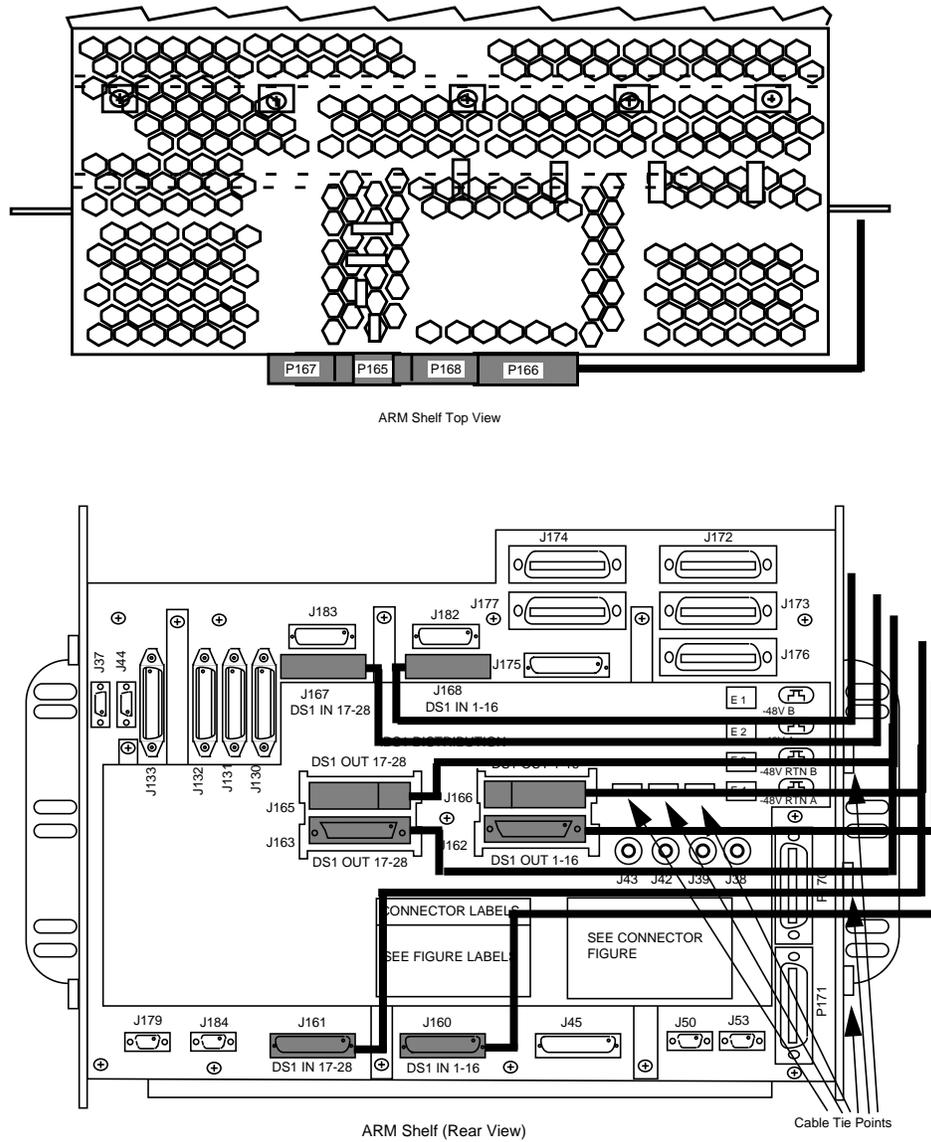

Figure 3-24. DS1 Distribution or Feeder Cable Routing
- Step 1:* Install the DS1 Interface Cable Assemblies in the right duct and mate their connectors (P160 to P163 for DS1 Feeder application or P165 to P168 for DS1 Distribution application) with their associated ARM shelf connectors. (See Figure 3-24.)